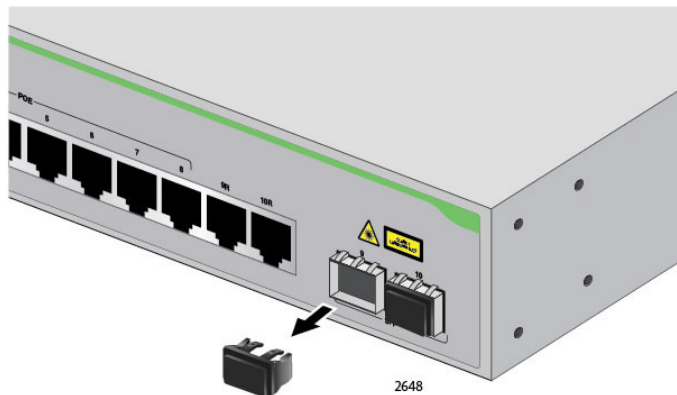

Figure 26. Removing the Dust Plug from an SFP Slot
2. Remove the dust plug from an SFP slot. See Figure 26.